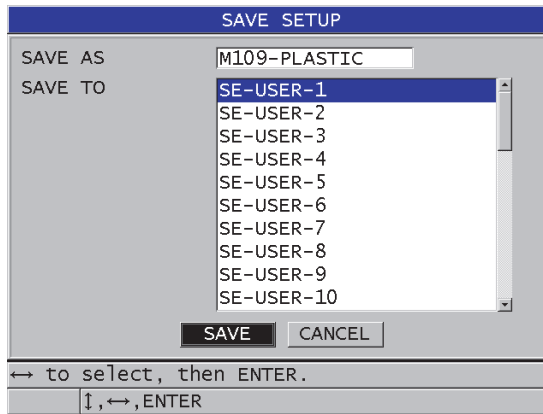

Figure 13-17 Saving custom setups
4. In the **SAVE SETUP** screen (see Figure 13-17 on page 258):